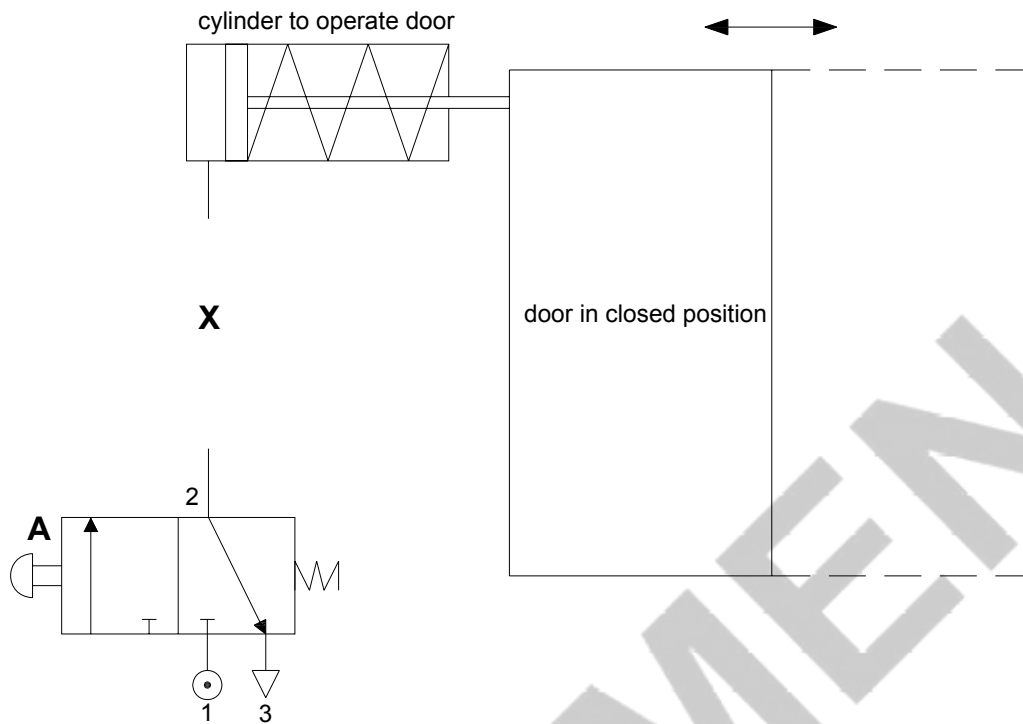

Fig. 2
- 2 An incomplete circuit to control a pneumatically operated sliding door for a tram is shown in Fig. 2.
- (i) Complete the circuit shown in Fig. 2 by adding a uni-directional flow restrictor in position **X**.